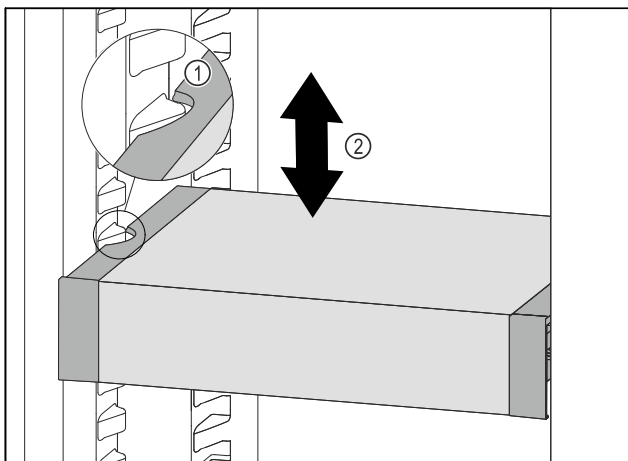

Fig. 89
- Pull VarioSafe forwards until the recesses in the side of the VarioSafe are at the level of the support rib in the refrigerator compartment. Fig. 89 (1)
- Move VarioSafe up or down in the refrigerator compartment until the desired height is reached. Fig. 89 (2)